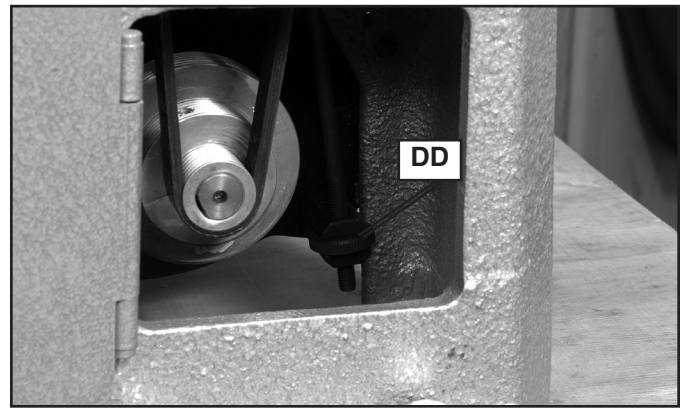

Fig. 19
3. Turn thumbwheel (DD) Fig. 19 clockwise to increase tension, or counterclockwise to decrease tension.